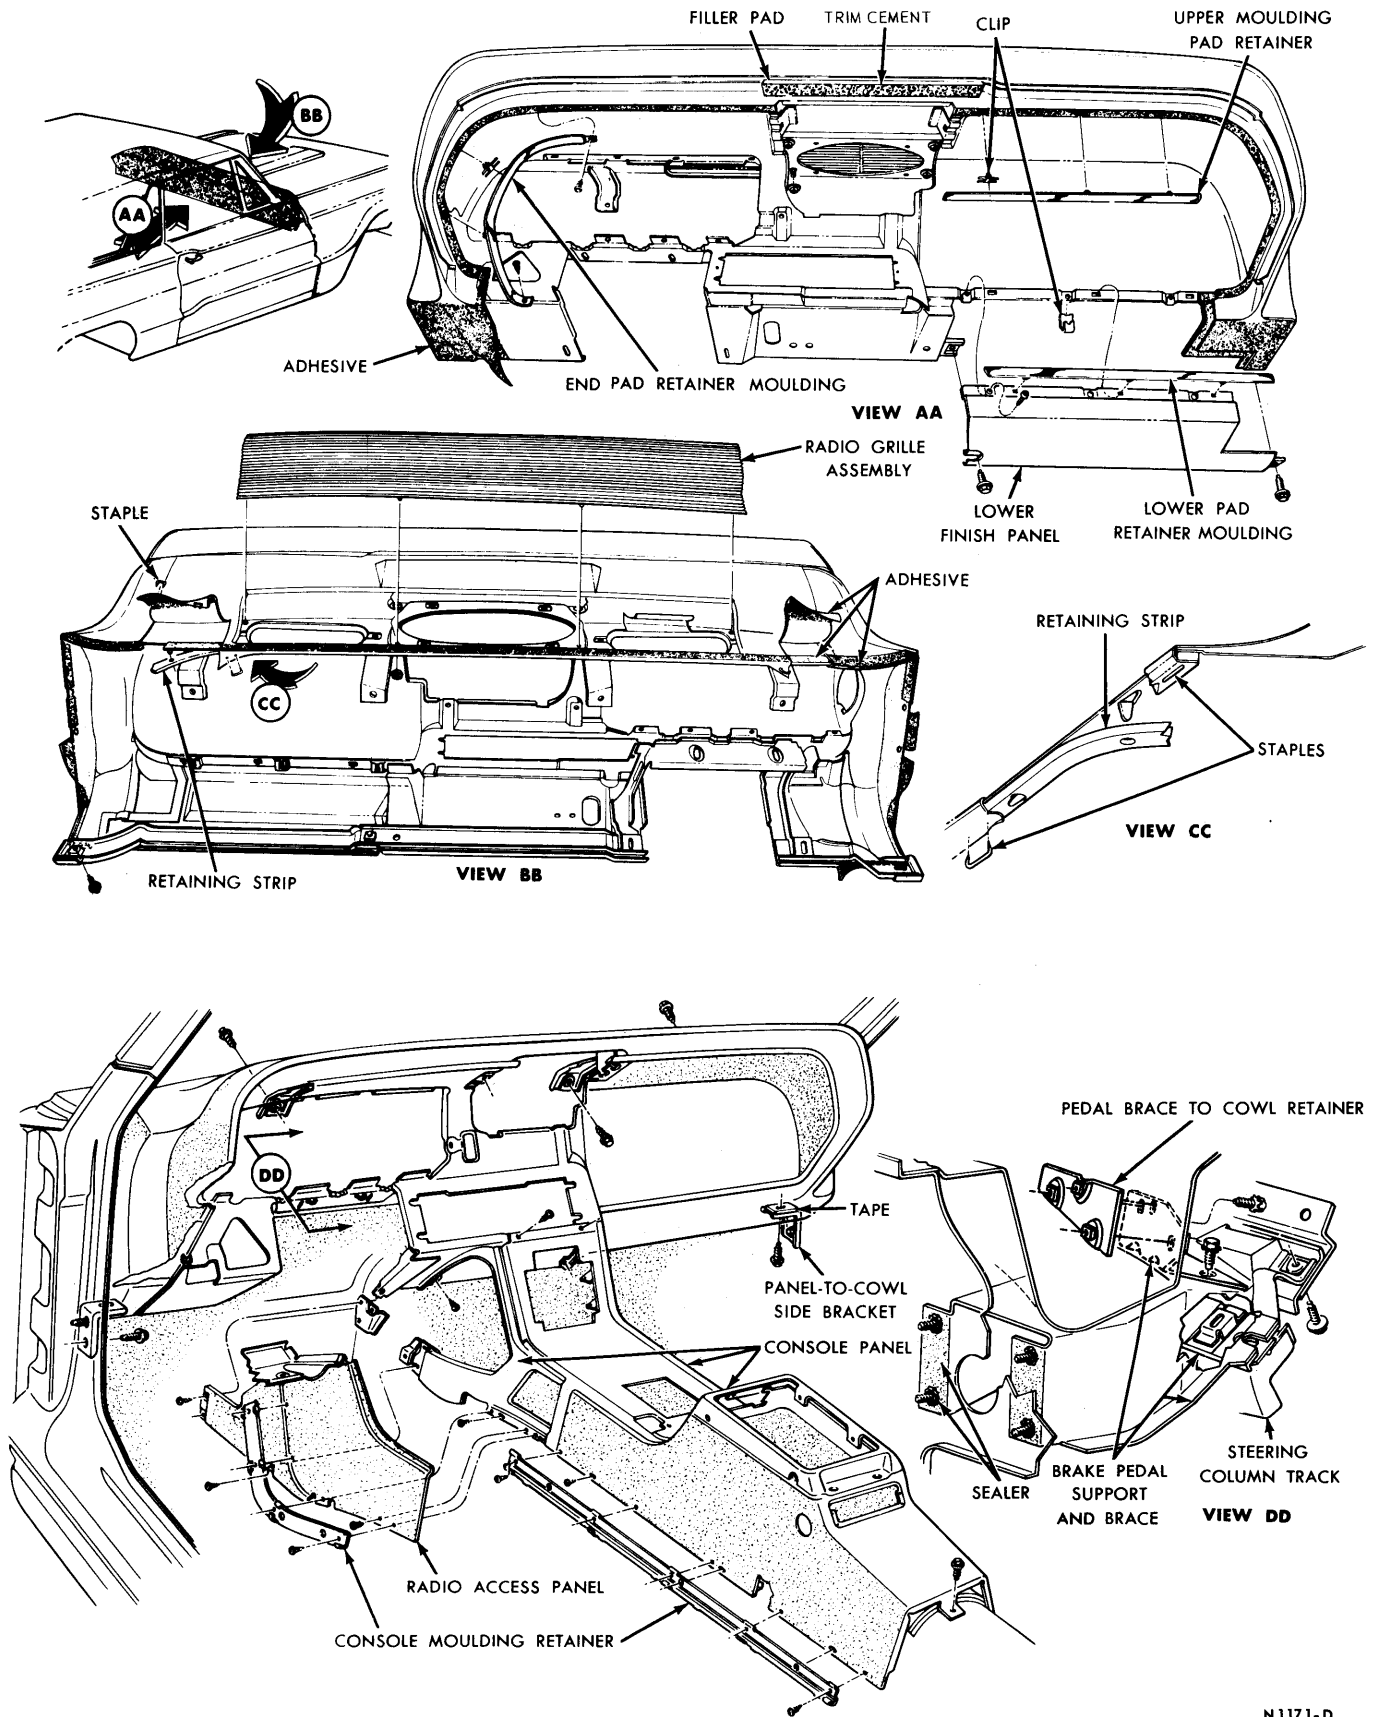

FIG. 5—Instrument Panel
4. Remove the two instrument panel retaining screws from the center outer top cowl area (Fig. 5).
7. Remove the four retaining screws from each of the side front console moulding retainers and remove the moulding retainers (Fig. 5).